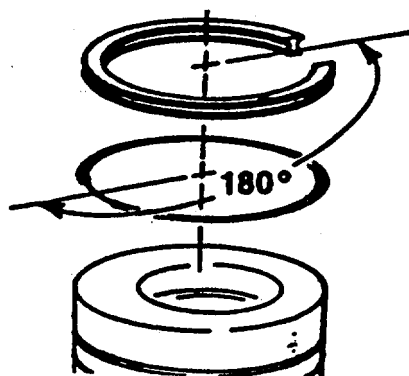

FIGURE 4-51. Installing Oil Control Ring.
- (2) Install the oil control ring with the end gap 180° from the ends of the expander as shown in FIGURE 4-51.